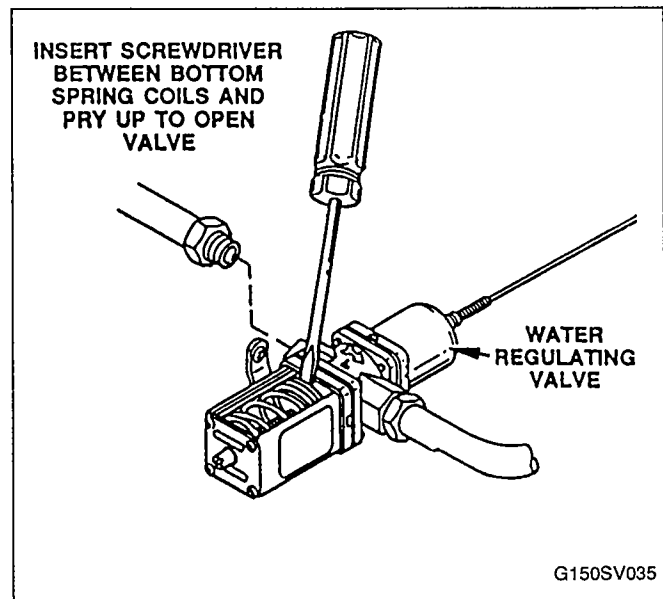

FIGURE 35. MANUALLY OPENING WATER REGULATING VALVE
3. Pry open water regulating valve by inserting large standard screwdriver between bottom spring coils of valve. Pry spring upward to open valve, Figure 35.